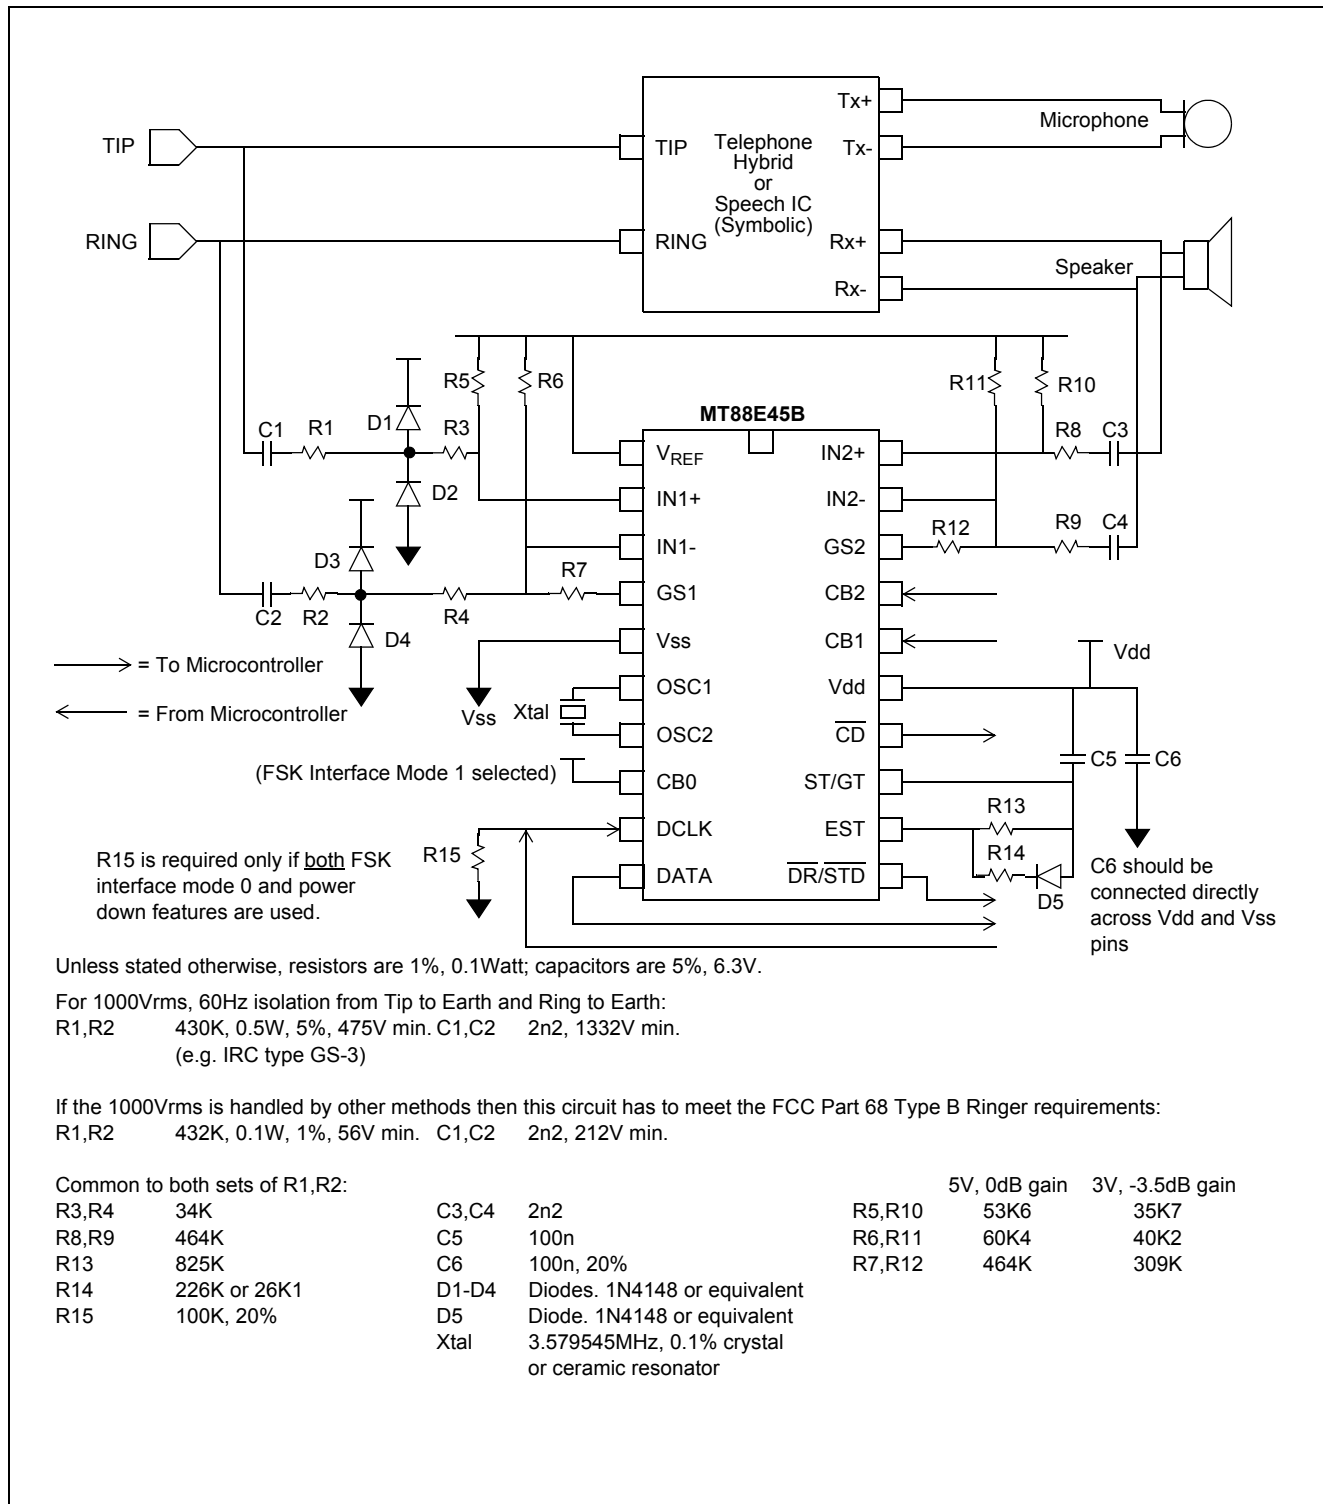

Figure 7 - Application Circuit: Bellcore MEI Compatible Type 2 Telephone
In power down mode both input op-amps, V_{REF} and the oscillator are non functional. DCLK becomes an input because to select the power down state CB0 is 1 which will select FSK interface mode 1. If the application uses FSK interface mode 0 and the MT88E45B needs to be powered down then a pull down resistor should be added at the DCLK pin to define its state during power down (R15 in Figure 7). When the MT88E45B is powered down DATA, $\overline{DR/STD}$, \overline{CD} are high; EST and ST/GT are low.
- For the GS1 op-amp, start with the 0 dB gain setting resistor values of $R5_{0dB}$, $R6_{0dB}$ and $R7_{0dB}$. In Figure 7 these values are 53K7, 60K4 and 464 K respectively. Keep C1,C2,R1,R2,R3,R4 as in Figure 7 to maintain the highpass corner frequency constant for all gain settings.